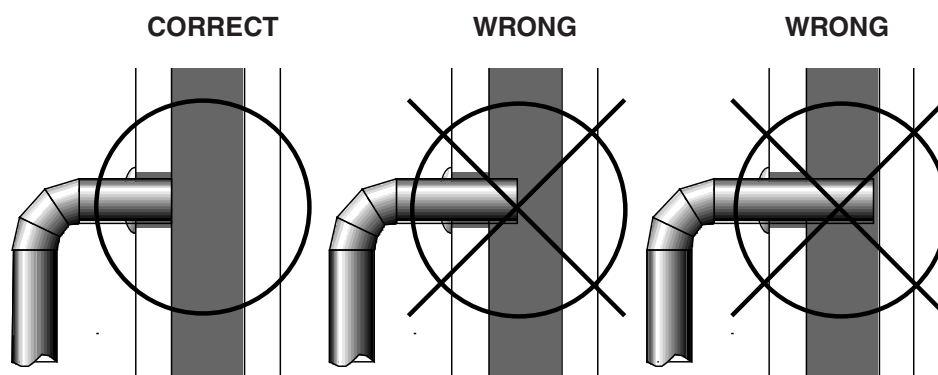

Fig. 6 – Stovepipe/Flue Connections
1. The smooth end of the stovepipe fits over the stove flue collar. Secure with three (3) sheet metal screws and seal with stove cement.
4. The pipe cannot extend into the chimney flue (figure 6).
6. It is recommended that no more than two (2) 90° bends be used in the stovepipe installation. The use of more than two 90° bends may decrease the amount of draw and possibly cause smoke spillage. Where possible, use only corrugated (non adjustable) elbows. These provide a better seal.
4. Install the stovepipe into the thimble as far as possible without extending past the flue lining (see figures 6 & 7 on pages 6 & 7).